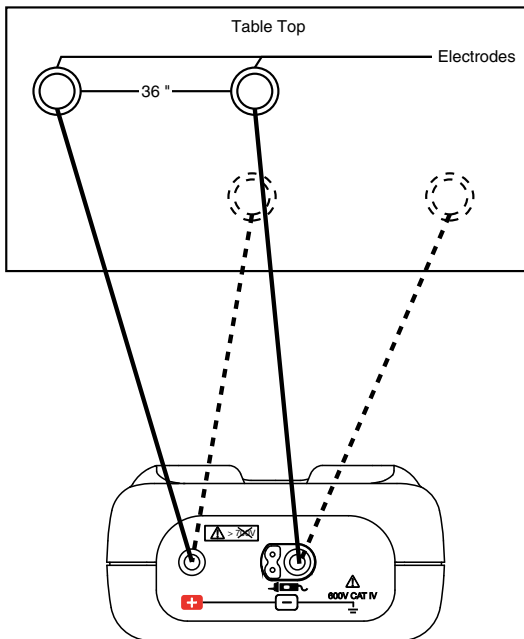

Figure 5
3. Unless otherwise specified, make five measurements on each floor section with the weights at different locations for each measurement, and record the value to two significant figures (see Figure 5 below).
- Resistance from electrode to electrode (Figure 5): Measured value: $\geq 1 \text{ M}\Omega$